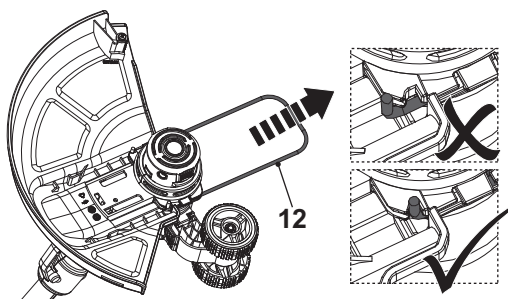

Fig. 13, trimming / edging position
1. Pull the plant protector (12) out until it locks in place for trimming / edging operation (Fig. 13).